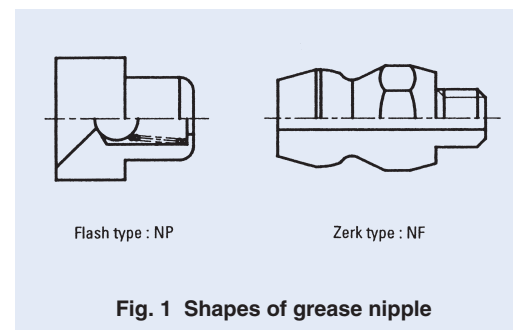

Fig. 1 Shapes of grease nipple
Notes(1) Shapes of grease nipple are shown in Fig.1. In case of no indication of grease nipple type, grease nipple is not prepared.